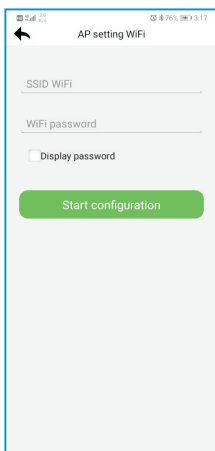
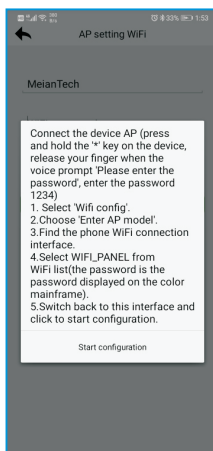

Fig. 5-12
Fig. 5-13
Step 2: Enter the available WiFi name and password in the hotspot setting WiFi interface (Fig. 5-12) , click to start configuration, and the pop-up window prompts the operation steps. (Fig. 5-13)